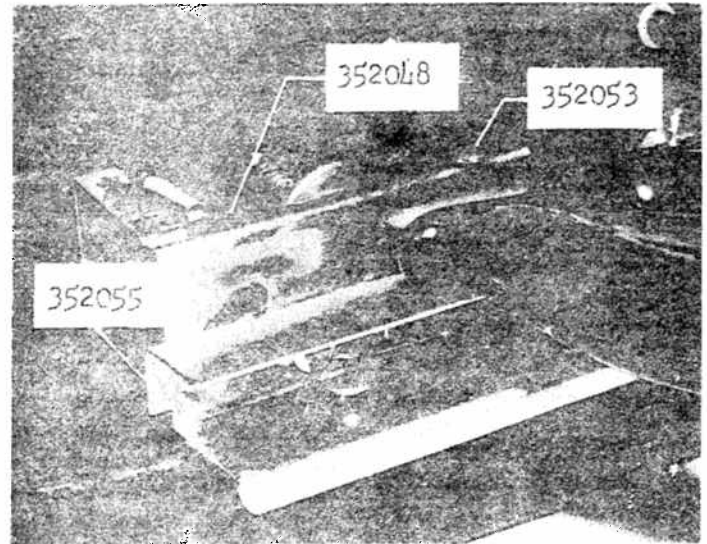

Figure 5
30. HOW TO DEPRESS LEFT-HAND SAW REST 352055: (See Figure 5).